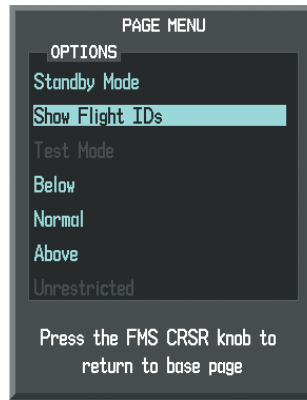

Figure 6-120 Traffic Map Page Menu
- 2) Turn the small **FMS** Knob to select 'Show Flight IDs' or 'Hide Flight IDs' (choice dependent on current state) (Figure 6-120).